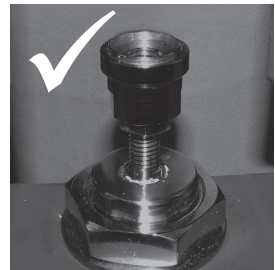

Fig. 17
- Loosen the actuator lock-nut (25), and screw the connector (10) fully into the spindle.
- Loosen the nut locking the valve stem to the adaptor (11).
- Position the adaptor so that only 8 mm of the valve stem thread is engaged (see Figures 17 and 18).